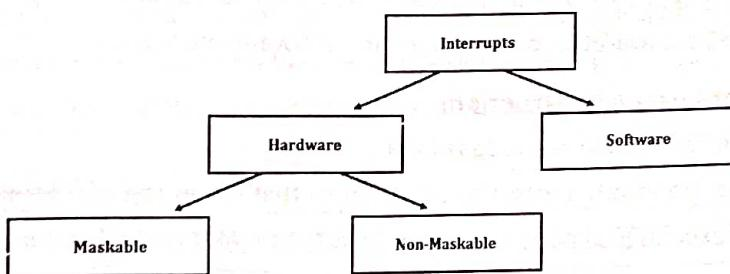

Figure 3.1: Types of Interrupts in 8086.
3. Figure 3.1 shows the types of interrupts we have in 8086 microprocessor.